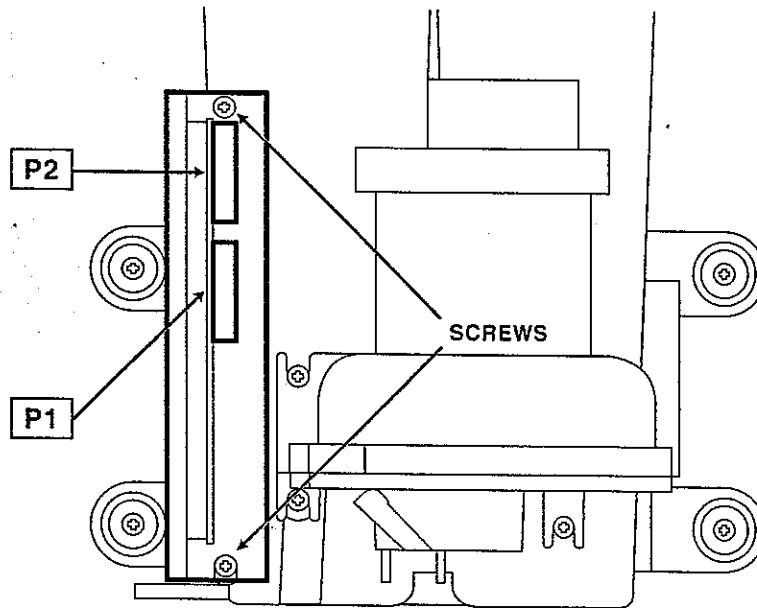

Figure 5-7. Motor Controller
- 2 Referring to Figure 5-7, remove connector P1 (coming from the Turbine) and P2 (coming from the Power Supply) from the Motor Controller noting the edges that engage the locking tabs.
- 3 Remove the two (2) screws securing the Motor Controller bracket to the muffler assembly.